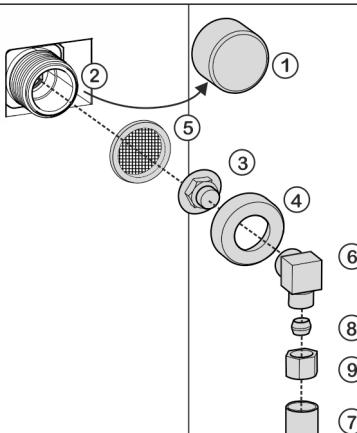

Fig. 58
- Insert the filter *Fig. 58 (5)* with the recess pointing down towards the coupler *Fig. 58 (3)*.
- Screw the union nut *Fig. 58 (4)* by hand onto the thread of the solenoid valve *Fig. 58 (2)* until it is firmly in place.
- Screw on angle piece *Fig. 58 (6)*.
- Connect the water pipe *Fig. 58 (7)* (e. g. 1/4" OD copper pipe) with the clamp ring *Fig. 58 (8)* and nut *Fig. 58 (9)* to the elbow connector *Fig. 58 (6)*.
- If necessary: Fasten the water pipe *Fig. 58 (7)* to the housing with the guide clip.
- Put angle piece *Fig. 58 (6)* to one side.
- Connect the water pipe *Fig. 58 (7)* (e. g. 1/4" OD copper pipe) with the clamp ring *Fig. 58 (8)* and nut *Fig. 58 (9)* to the coupler *Fig. 58 (3)*.
- Remove cap *Fig. 58 (1)* from solenoid valve *Fig. 58 (2)*.
- Insert coupler *Fig. 58 (3)* into union nut *Fig. 58 (4)*.